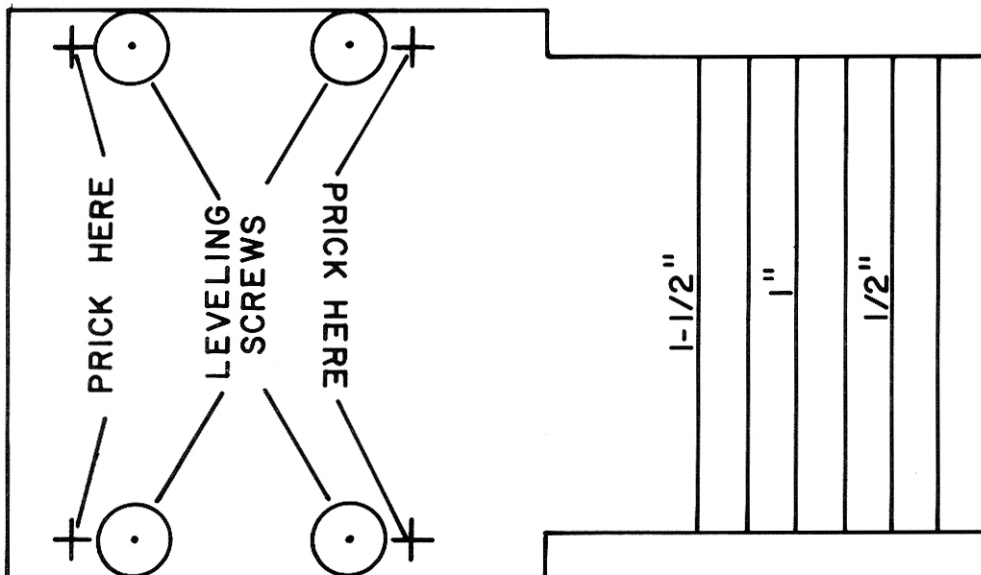

Figure 1. Control Location and Mounting Template
CONTROL CENTER MOUNTING (figure 1)
2. Cut out the paper template (figure 1) provided in this instruction sheet.